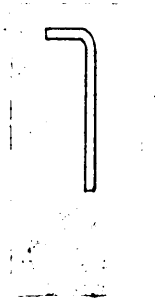

Figure 5.
5. Pin to be used may be an old bolt. You can take a piece of rod and bend one end and then cut the desired length. (Figure 5). Or you may head a bolt which would take considerable time.